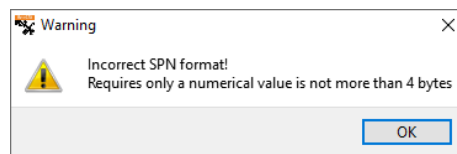

Figure 13 – Warning on choosing SPN of inappropriate format for CANUp 27 Standard
- 2) For CANUp 27 Standard it is allowed to select only SPN with digital value no longer than 4 bytes that may be added to the Report. In case any SPN beyond these limitations is selected, the appropriate warning is displayed (see figure 13).